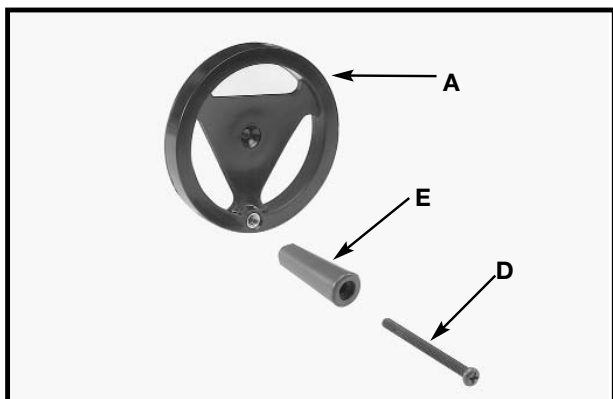

Fig. 14
1. Insert an M6x1x55mm pan head screw (D) Fig. 14 through the handle (E). Attach the handle (E) to the handwheel (A) by threading the screw (D) clockwise into the handwheel.